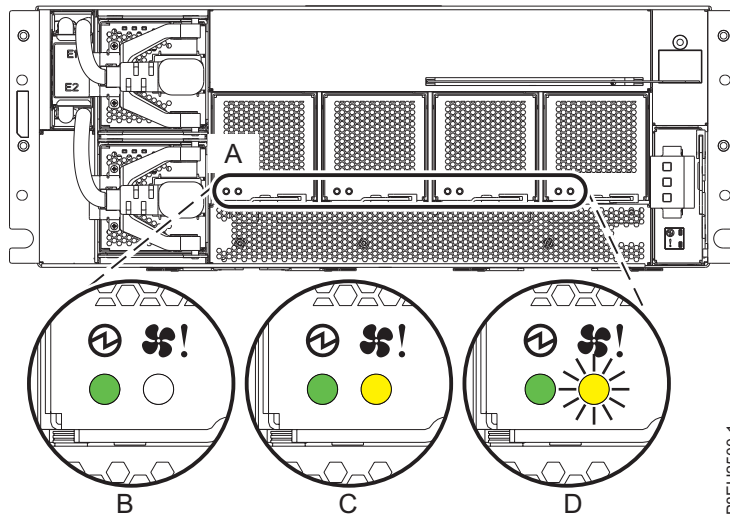

Figure 6. Fan LEDs in the EMX0 PCIe3 expansion drawer
- c. Verify that the amber fault LED (right LED) located on the replaced fan is **Off** and the green power LED (left LED) is lit solid. Refer to (B) in Figure 6 on page 6.
- b. Verify that the amber fault LED (right LED) located on the replaced fan is **Off** and the green power LED (left LED) is lit solid. Refer to (B) in Figure 6 on page 6.